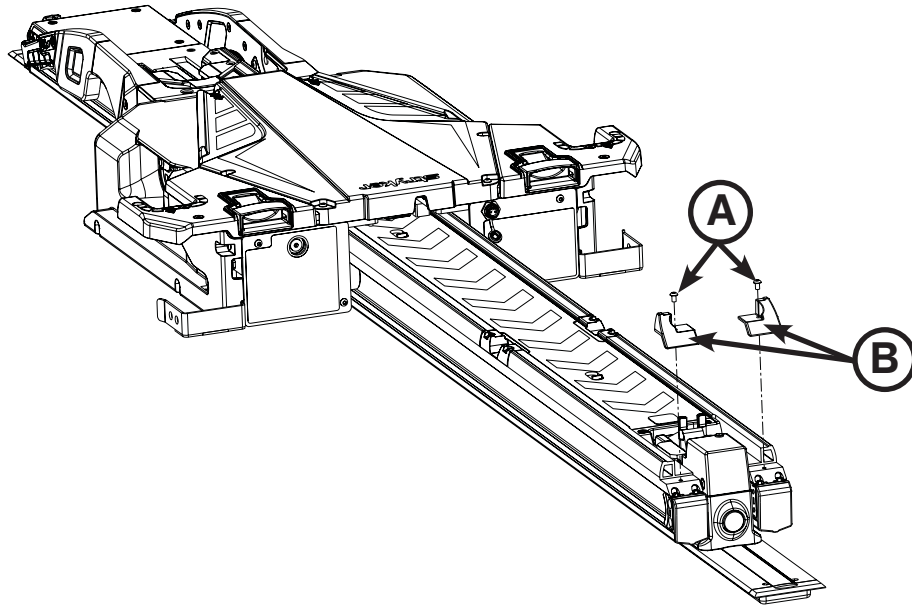

Figure 25: Attach Head End Trim
- Using a T25 Torx driver, install the two supplied button head cap screws (0004-665-000) (A) to attach the supplied patient left transfer head end trim (6390-001-210) and supplied patient right transfer head end trim (6390-001-211) (B) to the transfer assembly as shown in Figure 25.